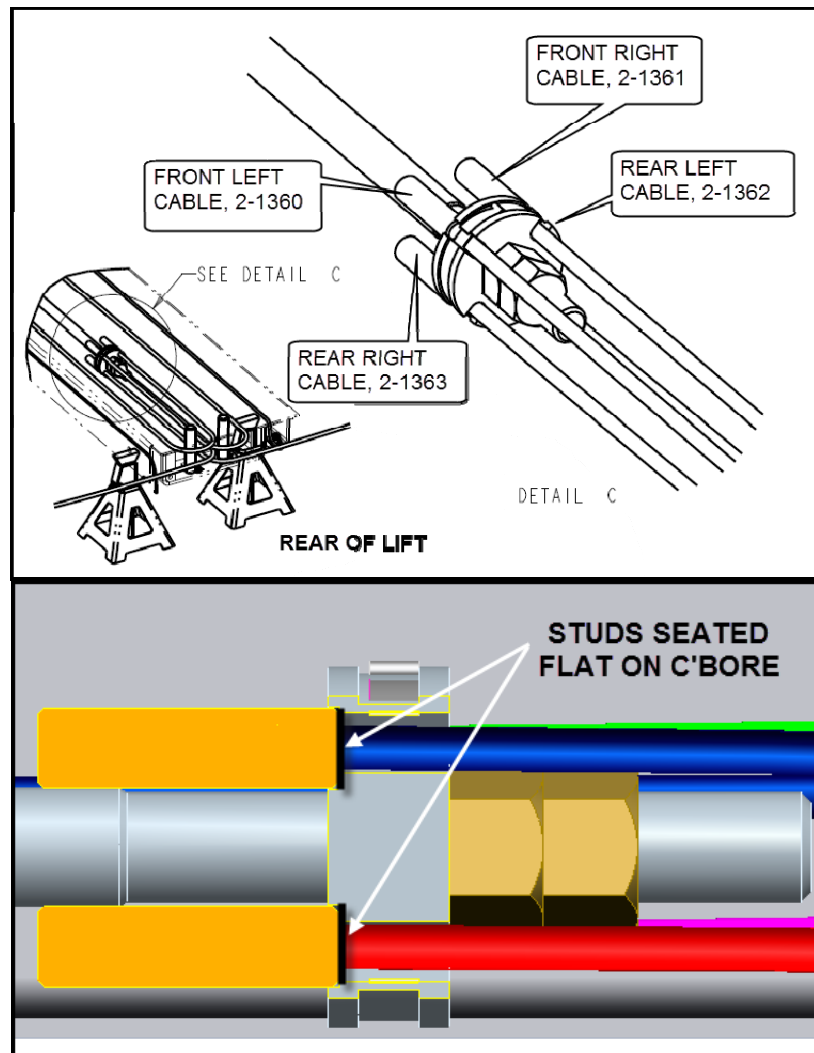

Figure 6. Cable Flange and Cable Assembly
6. Loosen the hose clamp on the cable flange and assemble the studded end of each cable to the flange as shown in **Figure 6**. Ensure the cable studs are seated properly in the counterbore. Tighten the hose clamp.